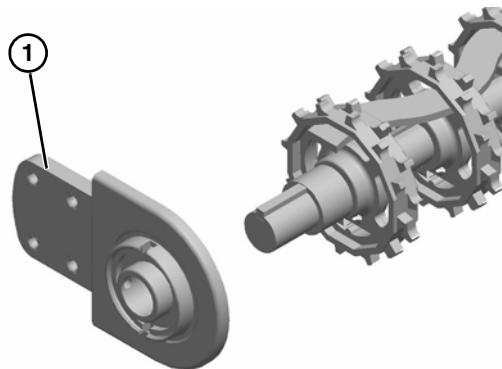

Figure 48
7. Slide the head plate with bearing (Figure 48, item 1) off the shaft.